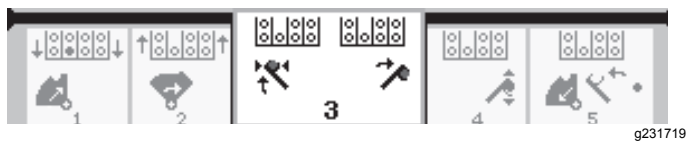

Figure 39
6. Release the button / rocker switch to proceed to the next step in the sequence (Figure 39).